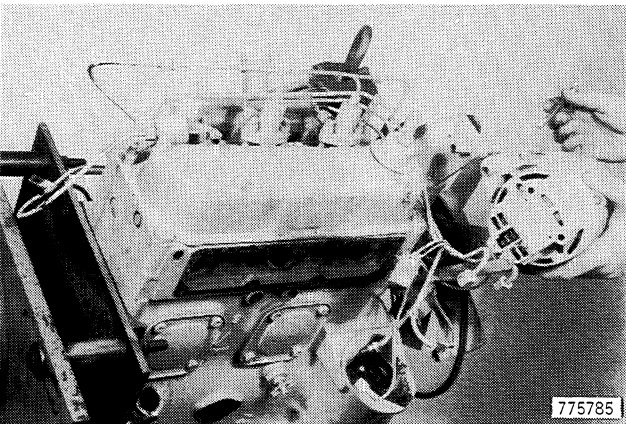

Figure 39
- 14. Remove the alternator mounting stud, alternator guard and the alternator, Figure 39.